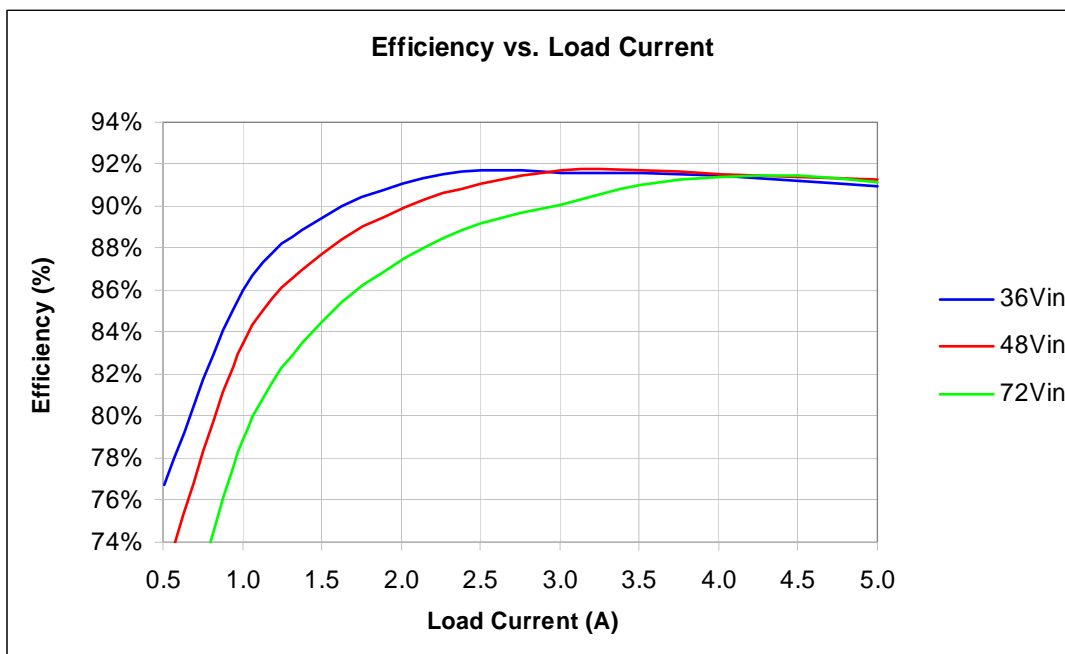
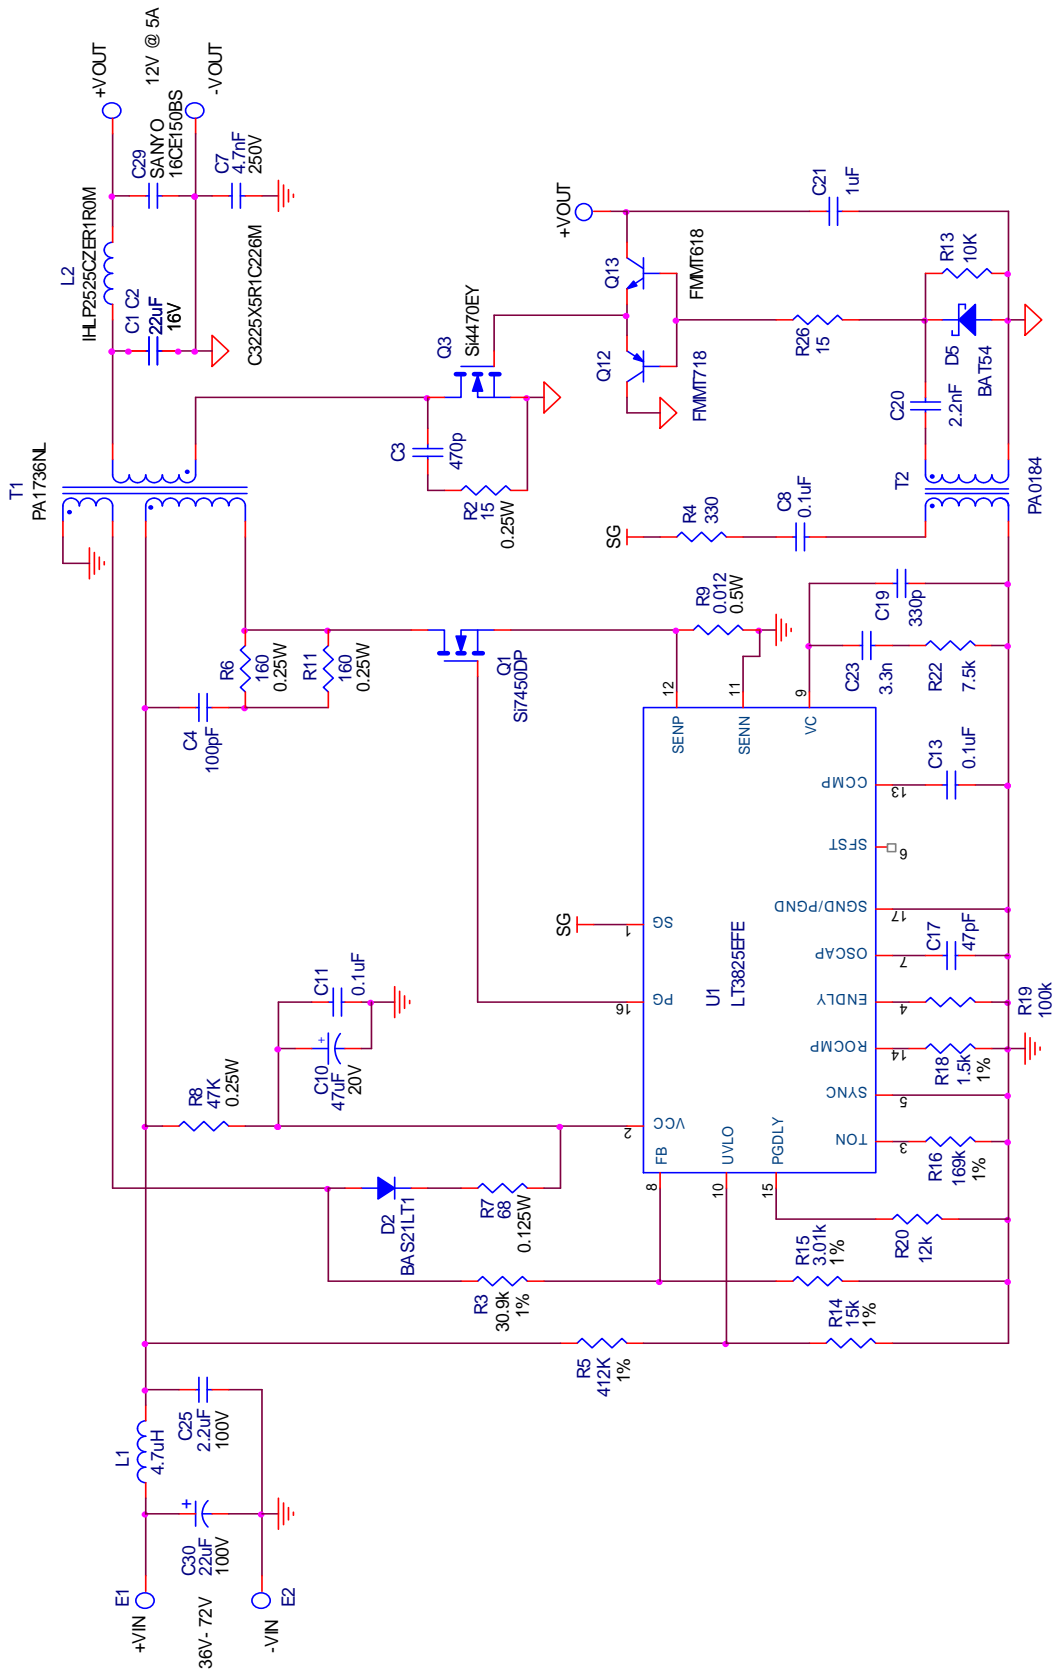

Figure 3. Efficiency
Figure 9. Simplified Schematic
The LT3825 controller exhibits a self-starting capability. When an input voltage is applied, a trickle charge resistor, R8, charges C10 (See Figure 9) to power V_{cc}. Then, the IC begins a controlled soft-start of the output voltage. As this voltage begins to rise, V_{cc} power is quickly taken over by T1, D2, and R7. When the soft-start period is over, the LT3825 then regulates output voltage by observing the pulses across the auxiliary winding of T1 during the flyback time. The Primary Gate drive (PG) and Synchronous Gate (SG) drive is then Pulse Width
Figures 3 through 8 are measured data for a typical DC894B-C. Figures 9 through 11 are schematics and bill of materials.